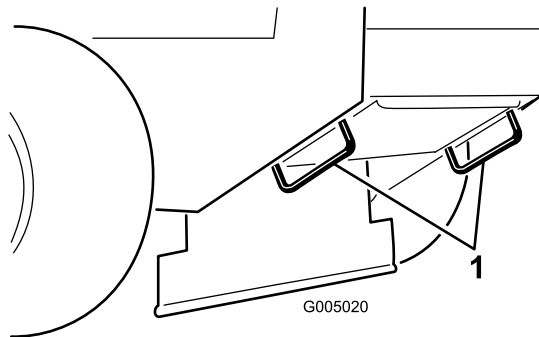

Figure 12
5. Use the metal tie down loops on the machine to securely fasten the machine to the trailer or truck with straps, chains, cable, or ropes (Figure 12).